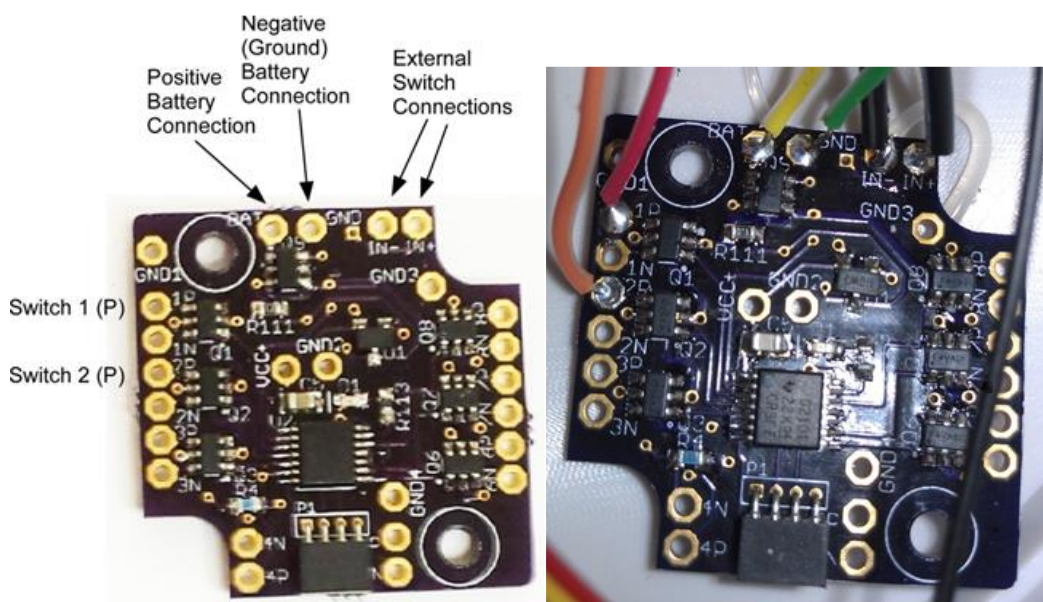

Figure 1. Wiring connections for a 2-switch example.
8. Solder the two 'zip cord' wire connections to the "external switch connections" in Figure 1.
9. Locate the positive battery connection on the toy (usually marked '+' or with a red wire). Cut an appropriate length of red wire, and solder it to the positive battery connection on the toy and on the 'positive battery connection' (see Figure 1) on the switch controller.
10. Locate the negative battery (or ground) connection on the toy (usually marked '-' or 'GND', often with a black or green wire). Cut an appropriate length of black wire, and solder it to the negative battery connection on the toy and on the 'negative (ground) battery connection' (see Figure 1) on the switch controller.